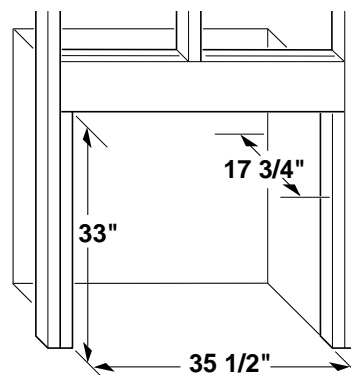

Figure 12 - Rough Opening for Installing in Wall
1. Frame in rough opening. Use dimensions shown in Figure 12 for the rough opening.